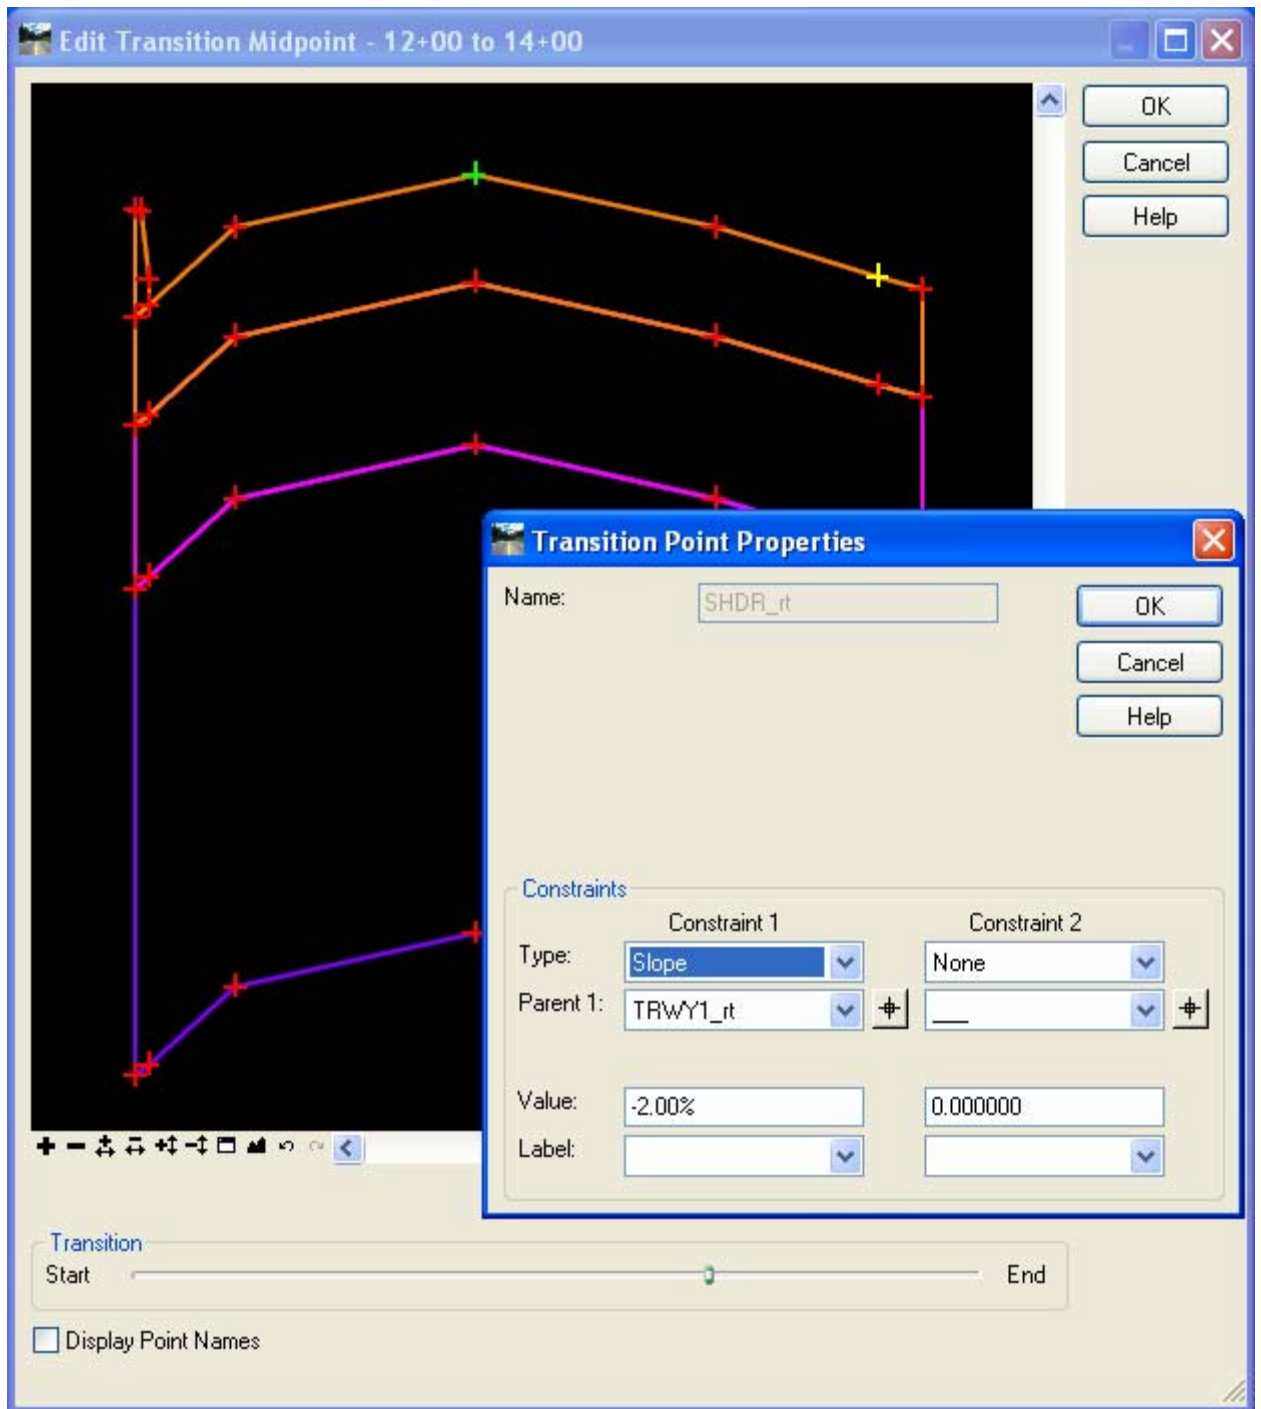

Figure 7-4 InRoads Edit Transition Midpoint Dialog Box
- D. Next click the **OK** button the Edit Transition Midpoint dialog will appear. Double click on the **SHDR_rt** point and change the horizontal constraint to **None**. Select the **OK** button on the **Transition Point Properties** dialog box and **OK** on the **Edit Transition Midpoint** dialog box as shown in Figure 7-4. The yellow highlight should turn blue indicating that edits have been made.